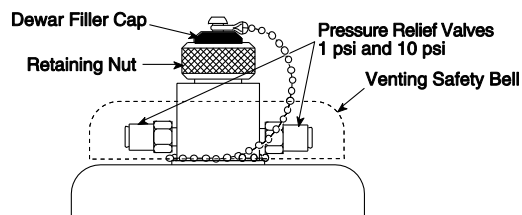

Figure 27. Dewar Ports and Valves
3. Assuming that the camera has been properly evacuated, loosen the retaining nut (Figure 27) a few turns, then remove the LN Dewar port cap by pulling it straight out.
Note: The pressure relief valves (Figure 27) underneath the protective covering will occasionally emit a plume of N_2 gas and mist. *Continuous* hissing indicates that the vacuum in the Dewar jacket is probably inadequate. In this case, *first remove all LN from the Dewar*, then reconnect the camera to the vacuum pump.